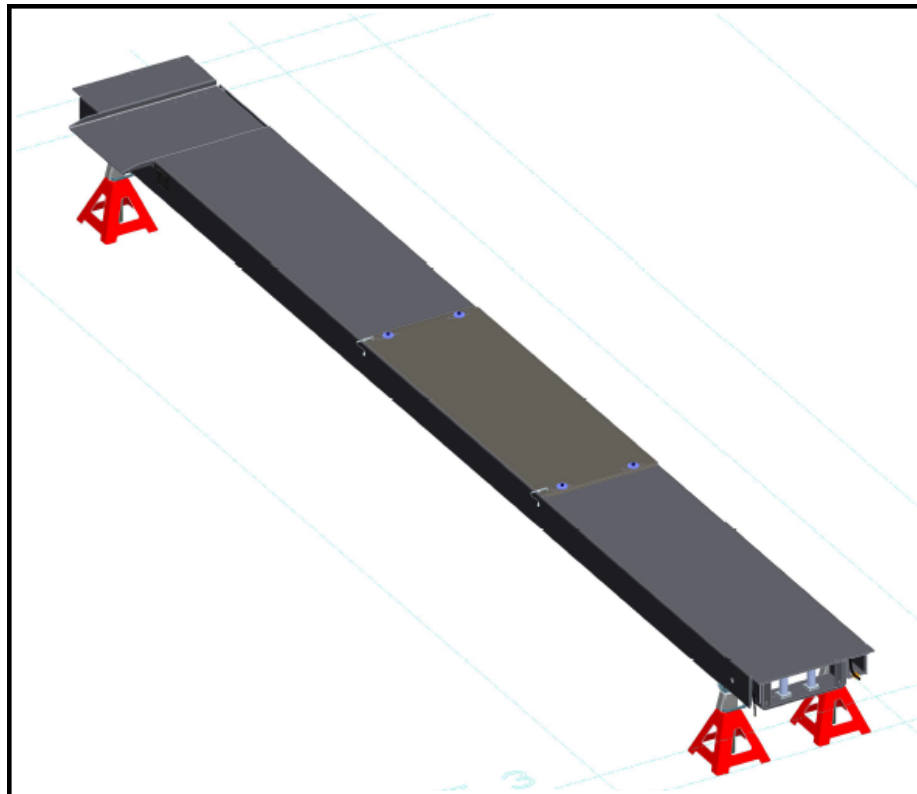

Figure 5: LS Deck Support
4. Using a floor jack or engine hoist, lift the left side runway and support with (4) jack stands (**see Figure 5**) or other means of support. Use the floor jack or engine hoist as addition support.